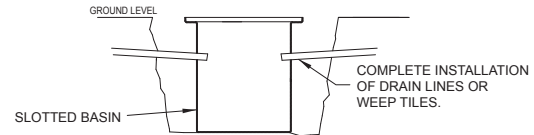

Figure 2.2
- 2.2) Lower basin into pit (Refer to Figure 2.2). Complete installation of weep or drain lines.